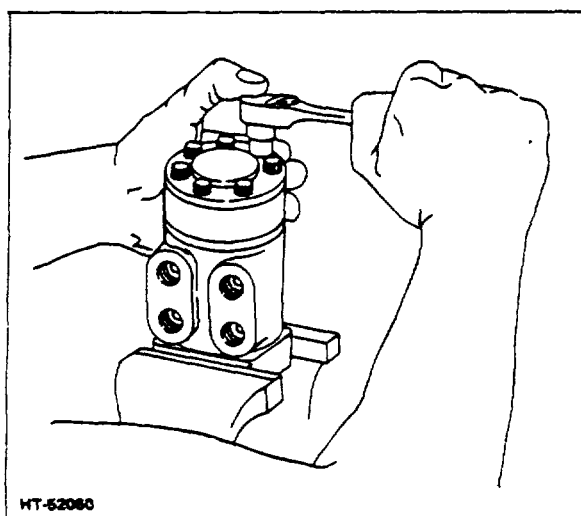
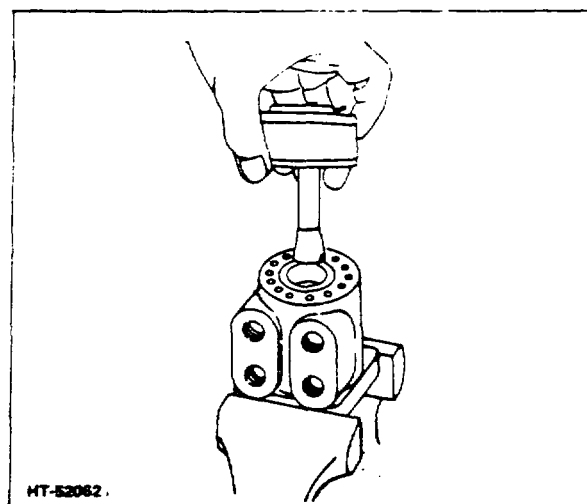

Figure 3-3. Removing End Plate Capscrews
Figure 3-4. Removing End Plate Assembly
7. Clamp the unit in the vise with the meter end up and remove the seven capscrews (Fig 3-3). Remove the three-section cap, gear, and plate as a unit, and set to one side on the bench (Fig 3-4).